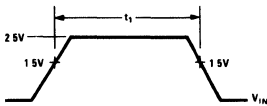

Figure 1
4. Set-up time (t_1) for input trigger pulse > 40 ns. (See Figure 1)